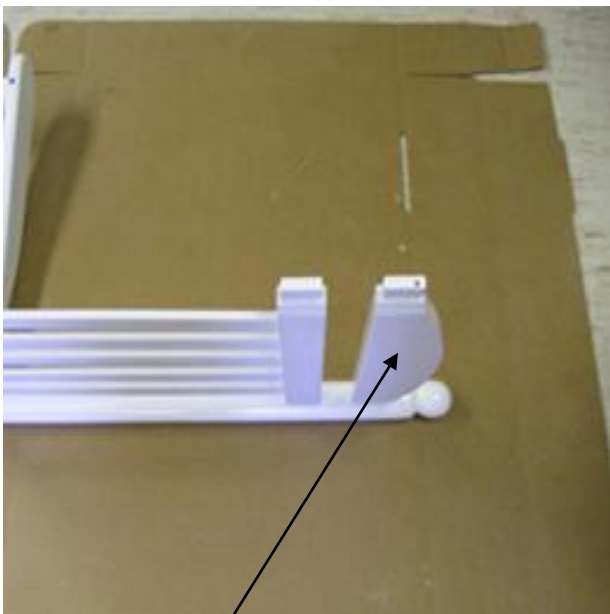

FIG. 3 C
Insert Headrest (C) into the mortise in the Chair Side. Ensure that both the Headrest (C), all Spindles and Chair Back (B) are fully inserted into the mortises. Figure 3.